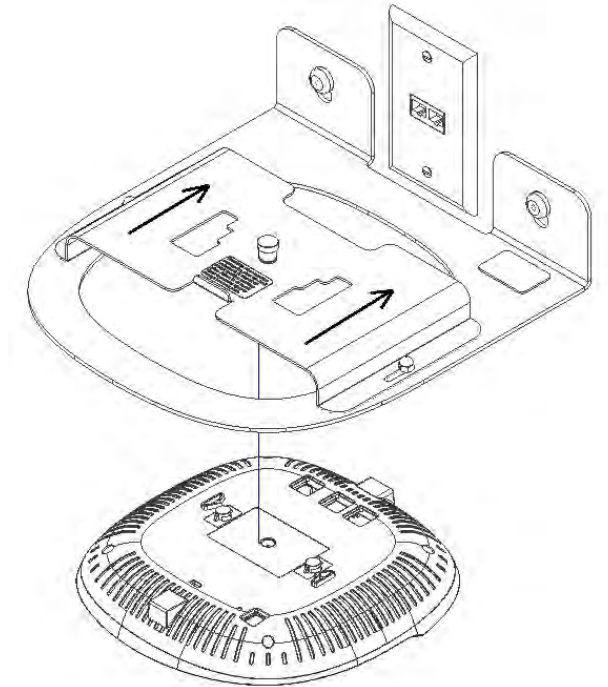

Figure 2
Step 5- After the mounting plate has been pushed towards the wall, use one hand to lift the *AP335 access point* into the opening with the Ethernet connectors facing towards the wall (Ref figure 2).